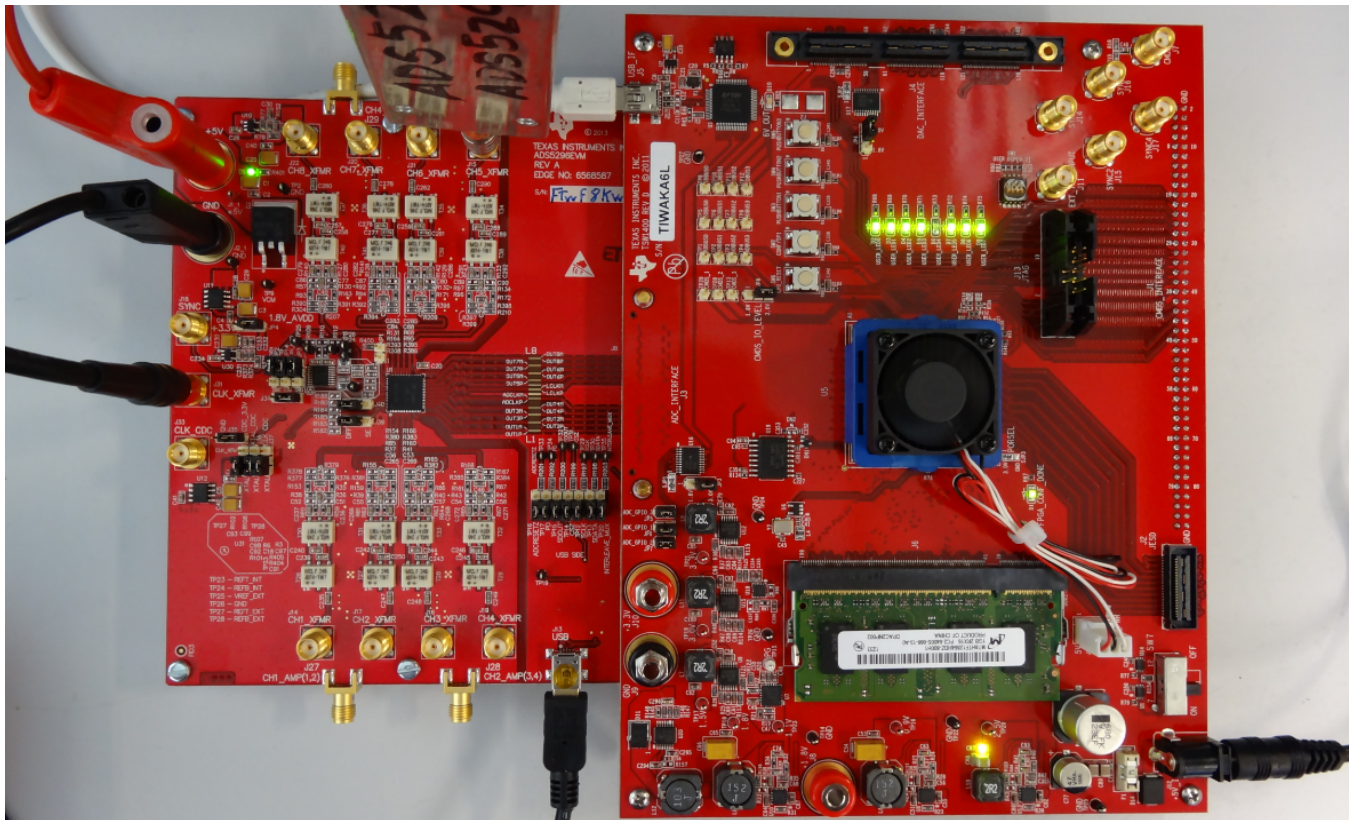
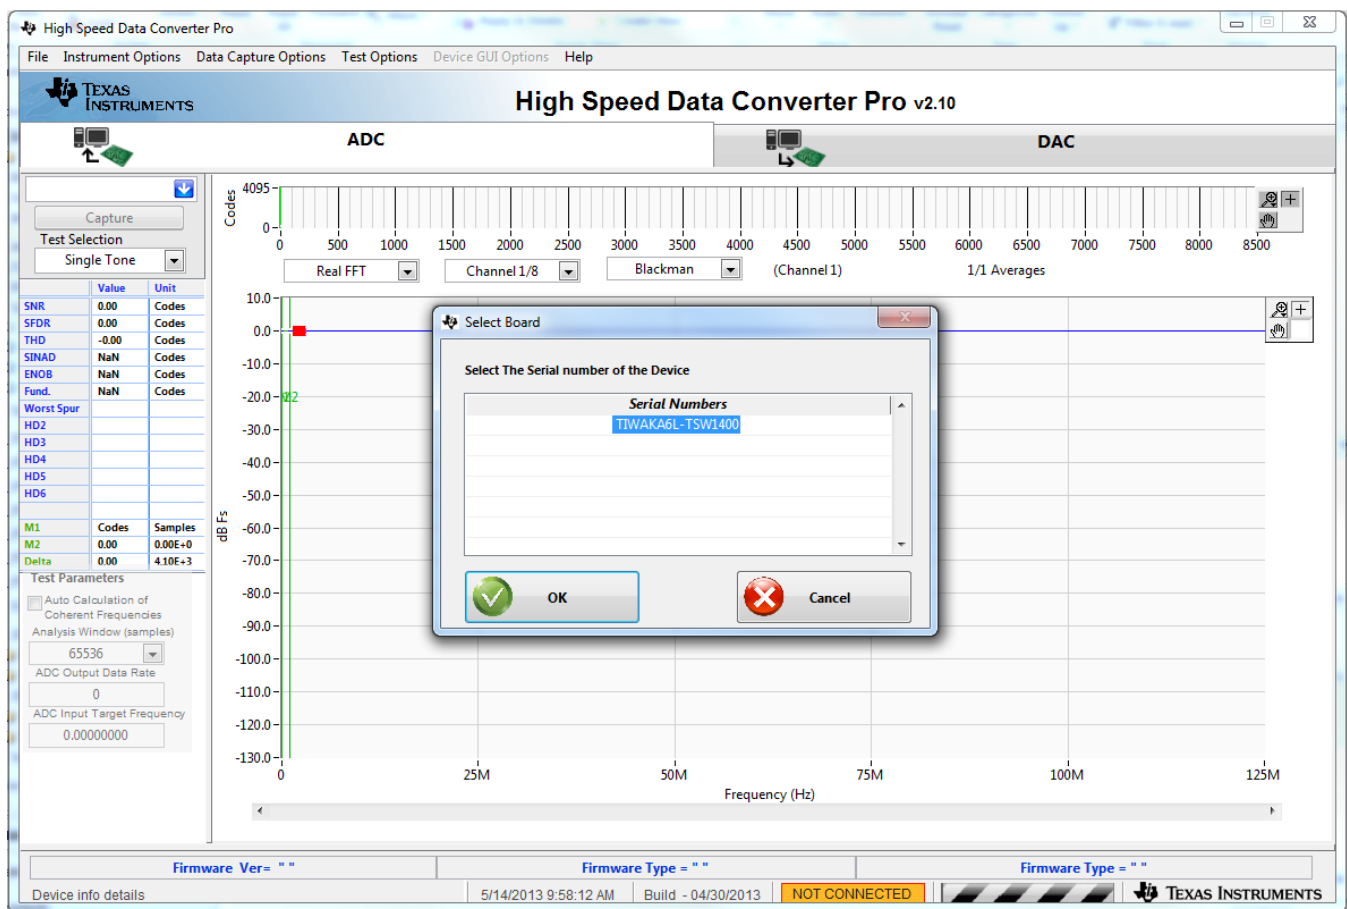

Figure 18. TSW1400 and ADS5296 Setup
Figure 22. TSW1400 GUI Setup (a)
The connections shown in Figure 18 should be made for proper hardware setup (*Note: Testing the LVDS interface between the ADS5296 EVM and the TSW1400 EVM can be performed using a RAMP function generated within the ADS5296 device in lieu of the signal source listed in item 7 below. Also, an on-board 80-MHz crystal oscillator (XTAL) can provide the ADC sampling clock in lieu of the signal source listed in item 6 below. This configuration is only recommended for testing the RAMP function as low phase noise filtered signal sources must be provided to both the ADC clock input and the ADC analog inputs for measuring device performance*).
1. With the setup outlined in Figure 18 established, launch the *High Speed Data Converter Pro* GUI. The GUI should automatically detect the serial number of the TSW1400 EVM, connected as shown in Figure 22. Click on OK.